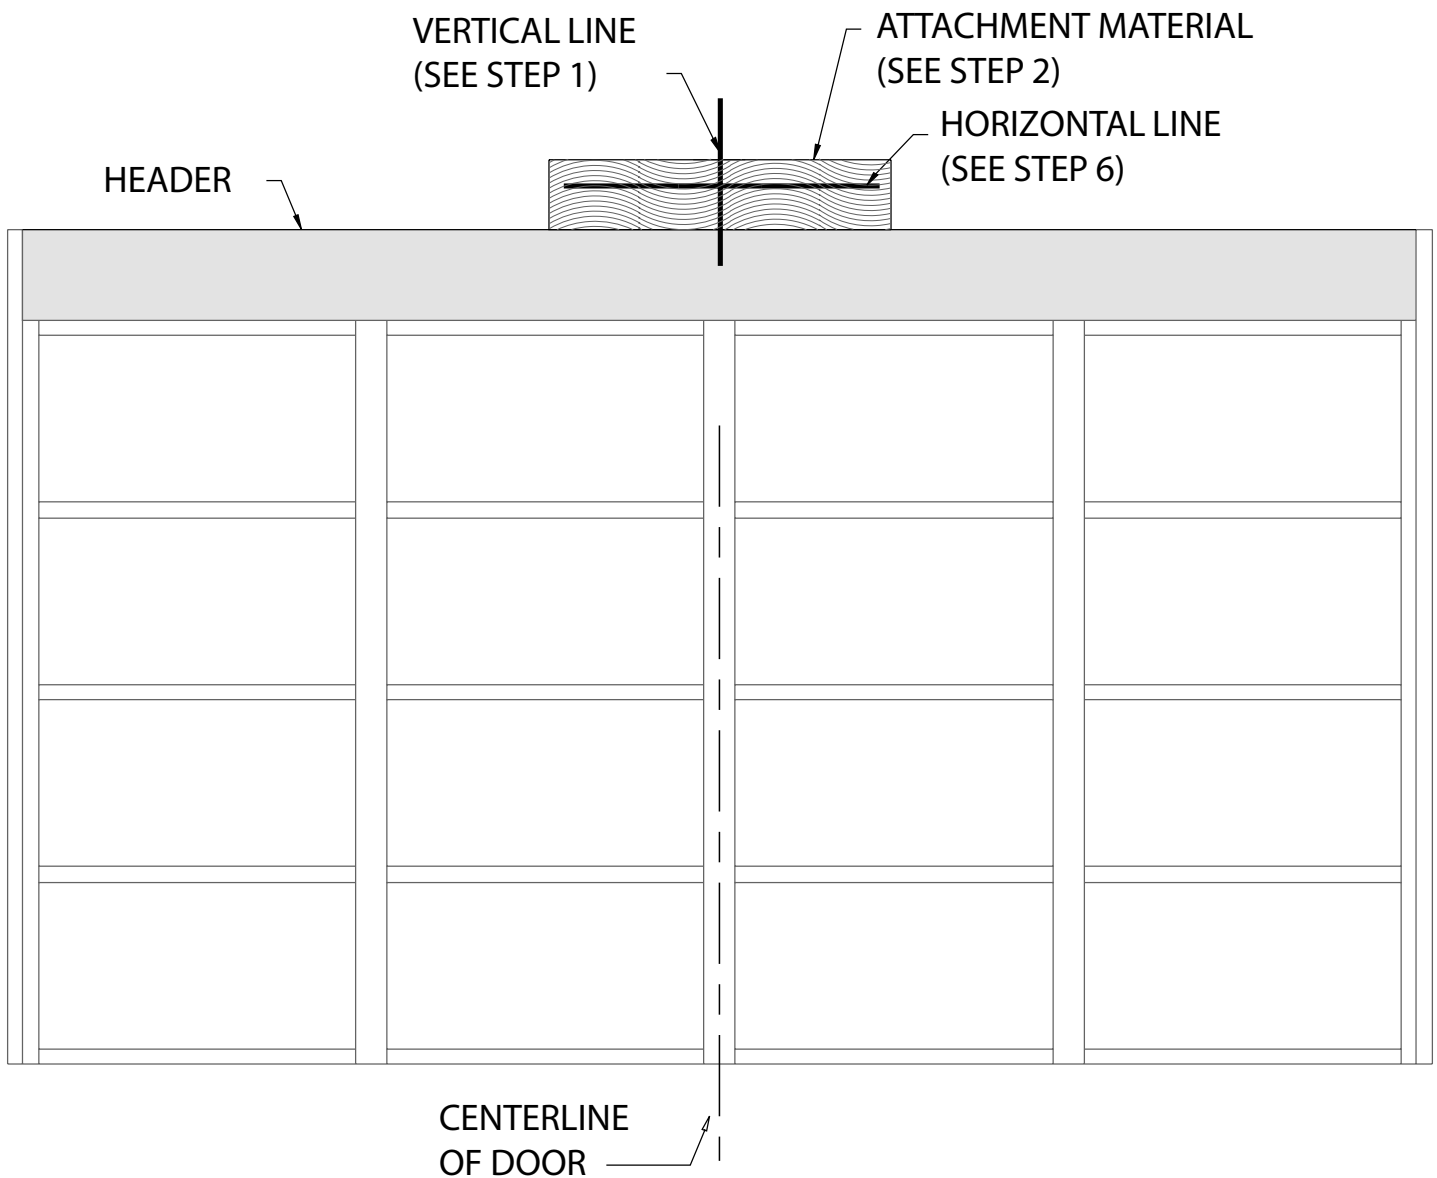

FIG. 6
1. Measure the width of the door to determine the center. Make a vertical line above the door, as shown in FIG. 6.
2. Prepare for attaching drawbar to header. If woodwork, or other suitable material is not already in place, securely affix a 2" x 6" block of wood or metal plate as shown in FIG. 6.